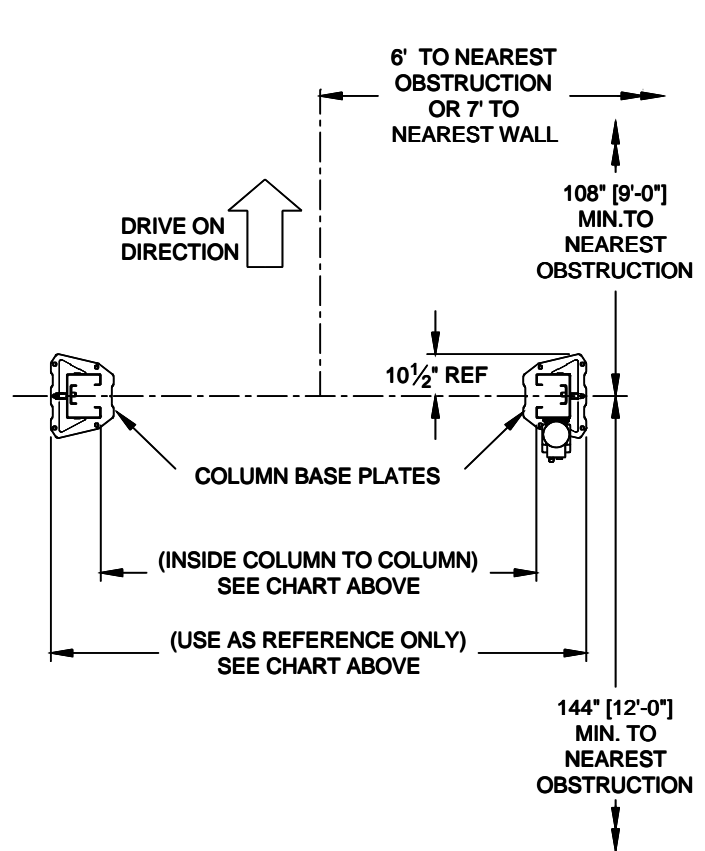

Fig 1b - Service Bay Layout
- 1) Layout the service bay according to the architect's plans or owners instructions (**see Fig 1b**). Be certain that the proper conditions exist, see page 3.